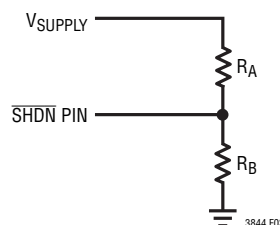

Figure 3. Undervoltage Lockout Circuit
When laying out the printed circuit board, the following checklist should be used to ensure proper operation. These items are illustrated graphically in the layout diagram of Figure 3.
- Locate the  $V_{\text{CC}}$  and BOOST capacitors in close proximity to the IC. These capacitors carry the MOSFET driver's high peak currents. Place the small-signal components away from high frequency switching nodes (BOOST, SW and TG). In the layout shown in Figure 3, place all the small-signal components on one side of the IC and all the power components on the other. This helps to keep the signal and power grounds separate.